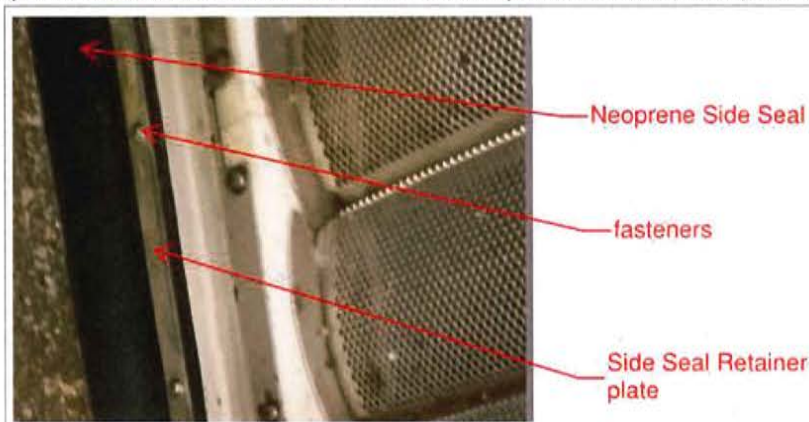

Figure 2-2: Side seals as installed
2. Flip the neoprene seal over and reinstall the seal retainer plates and fasteners. (See Figure 2-2)